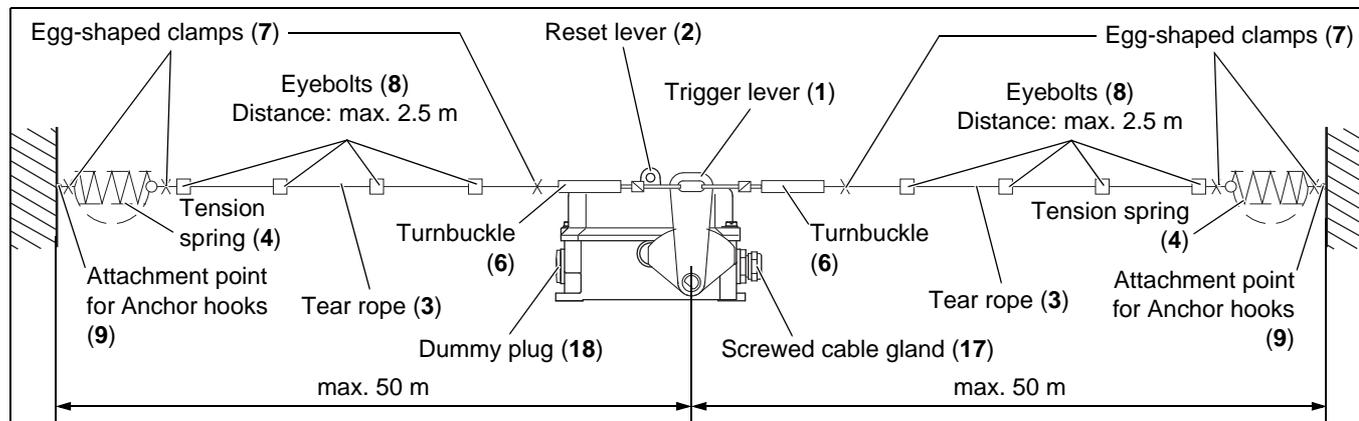

Fig. 6-1: Mounting on the conveyor structure
2. Remove the Turnbuckles (6) out of the Trigger lever (1) (see fig. 6-1).